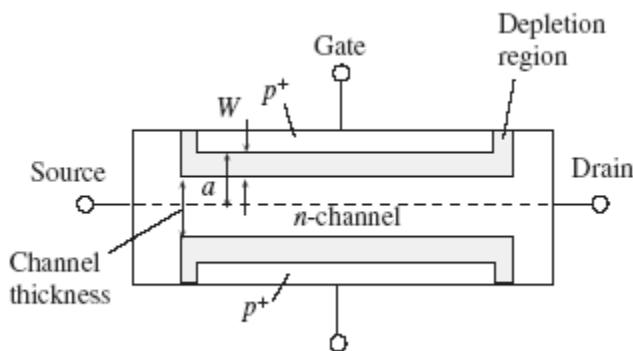

Figure 1: A symmetric *n*-channel JFET
1. [a] Consider a symmetry *n*-channel of (JFET) shown in Figure 1. The width of each depletion region is extending into the *n*-channel is W . The thickness, or depth, of the channel, defined between the two metallurgical junctions, is $2a$. Assuming that it is an abrupt *pn* junction and $V_{DS} = 0$. Calculate the pinch-off voltage of a JFET that has an acceptor concentration of 10^{19} cm^{-3} in the p^+ gate, a channel donor doping of 10^{16} cm^{-3} , and a channel thickness (depth), $2a$, of $2\mu\text{m}$.